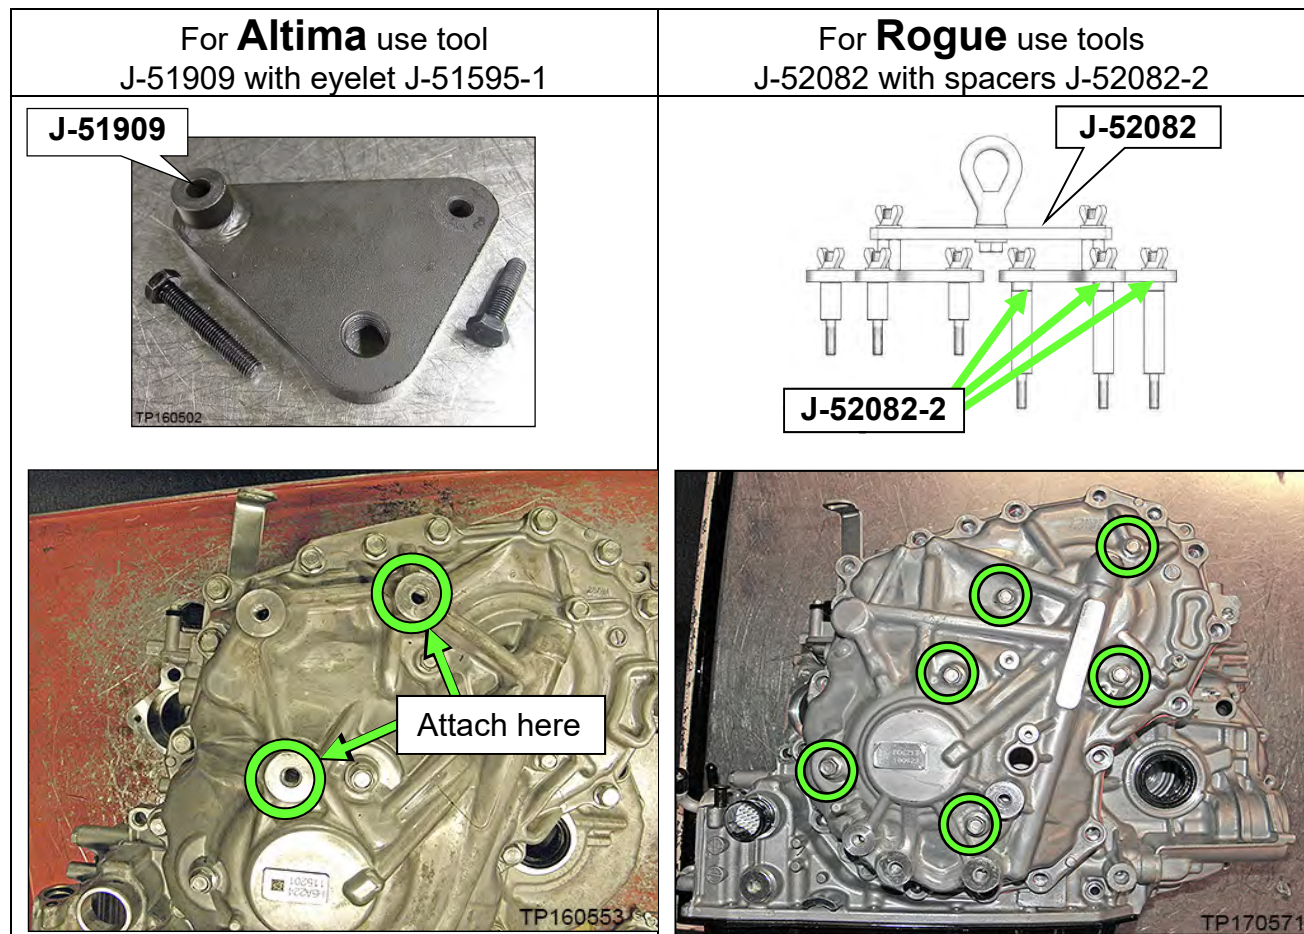

Figure 70
51. Attach appropriate lifting fixture to the side cover (Figure 70).